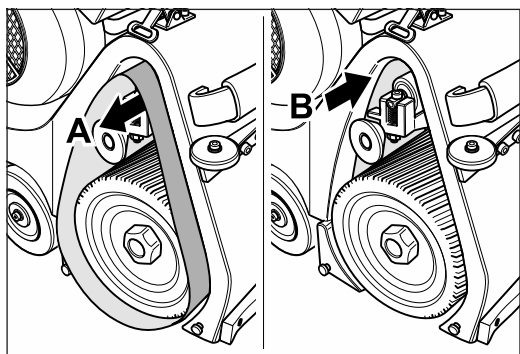

Fig. 47 If the sanding belt runs in direction of **A** or **B**, the setting of the sanding belt tracking is necessary. **Similar to figure.**
- 5 If the sanding belt runs to the front (in direction of **A** in fig. 47) or to the back (in direction of **B** in fig. 47) the setting of the sanding belt tracking is necessary (➔ *Section 7.3.2, Setting the sanding belt tracking*). If the sanding belt tracking is alright, mount the side cover.
If the sanding belt is running out of true (in direction of **A** or **B** in fig. 47), it must be turned around and another test performed.
If the sanding belt runs to the front (in direction of **A** in fig. 47) and after turning over runs to the back (in direction of **B** in fig. 47) or vice versa, the sanding belt is of poor quality and is not usable (conical sleeve)!